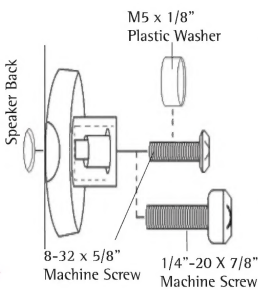

Figure 3
- 4. Check the size of the hole and make sure the 8-32 x 5/8" machine screw, the 1/4"-20 x 1/2" machine screw, the 1/4"-20 x 7/8", or the M5 x 20mm fits inside (Figure 3).